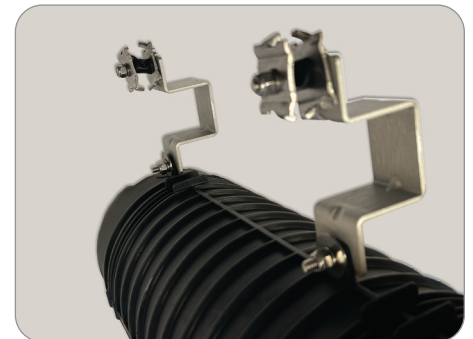

Figure 2
- It is "standard" to mount the bracket with the strand mount over the tab to help the closure balance on the strand but it may be installed the opposite way if an application calls for it. (**Figure 2**)